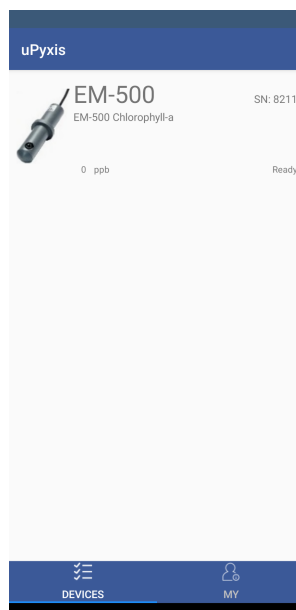

Figure 7.
3. If the connection is successful, the EM-500 and its Serial Number (SN) will be displayed (Figure 7).